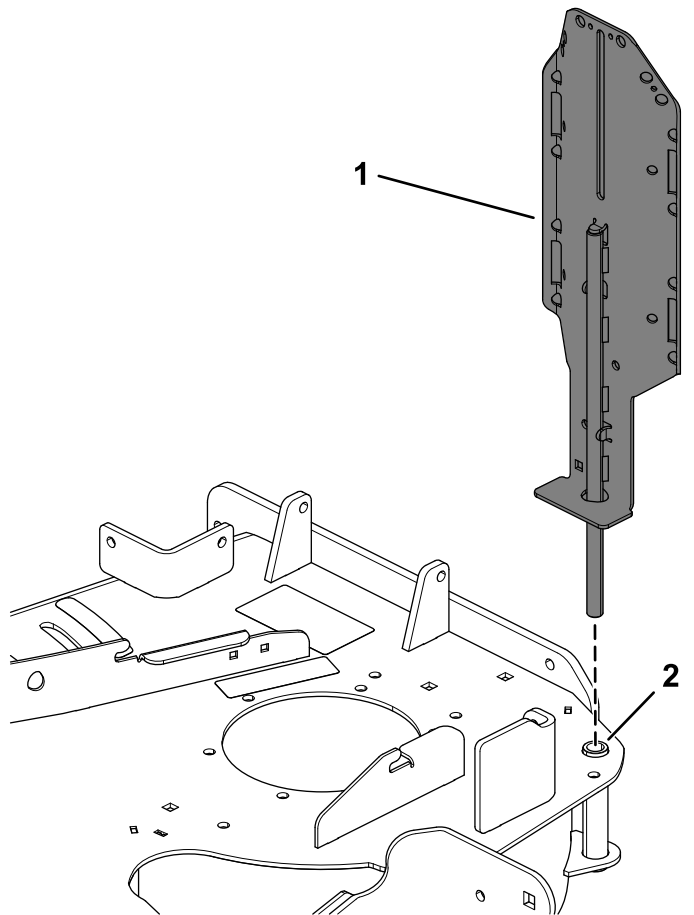

Figure 2
1. Install the bucket-holder mount into the deck-mounting hole by the discharge plate (Figure 2).